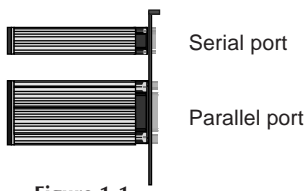

Figure 1-1
- One 9-pin serial port and 25-pin parallel port ribbon cable with bracket (Figure 1-1)